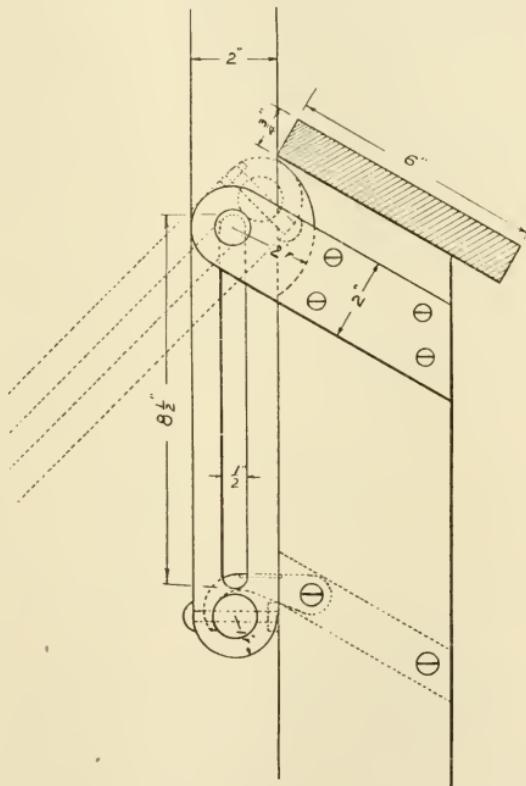

FIG. 78.—DETAIL AT TOP OF STEP LADDER.
6. Cutting the curve in the ends of the side pieces.—In cutting the curve under the top step, lay a side piece on the bench and place a block against the edge near the acute angle of the top of the piece. Gauge a line 1" from the edge of the block that rests against the side piece and set the compass at 2"; scribe an arc similar to the one in the detailed drawing, Fig. 78. Saw this out with a keyhole saw and smooth with sandpaper.